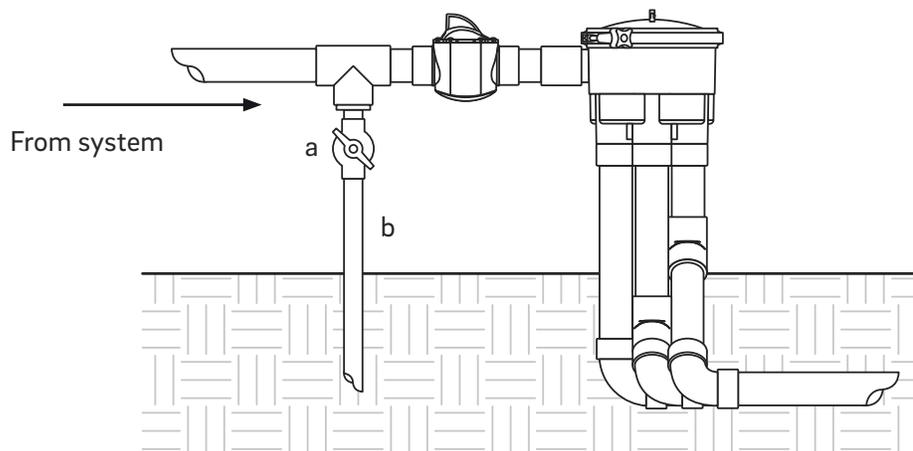

Figure 4
2. To deliver water to the venturi nozzle inside the skimmer, install a Tee fitting on the return line after the filter and before the in-floor valve (Figure 4). Following the branch of the Tee, add a 2-way shut-off valve (Figure 4a) and a minimum of 1.5 inch schedule 40 PVC (Figure 4b) as the feed line to the QuikSkim's venturi nozzle; reduce the pipe size as needed.
Proper flow to the venturi nozzle can be set by adjusting the shut-off valve installed before the water-valve (Figure 4).
Shut off flow to the venturi line completely by closing the shut-off valve installed on the return line before the water-valve (Figure 4).